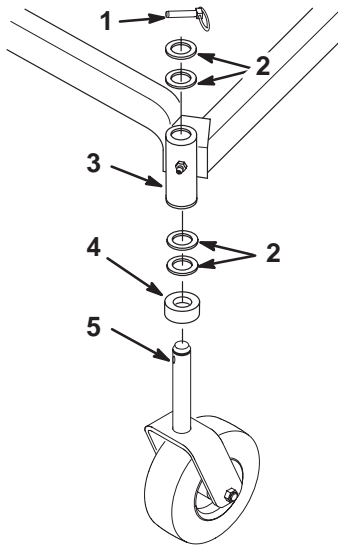

Figure 55
2. Remove the locking pin and spacer(s) from the top of the caster wheel fork (Fig. 55).
6. Inspect the caster wheel fork for wear and replace if necessary (Fig. 55).
7. Slide the caster wheel fork through the bushings in the mounting tube. Replace the spacer(s) onto the fork and secure with the retaining ring (Fig 55).